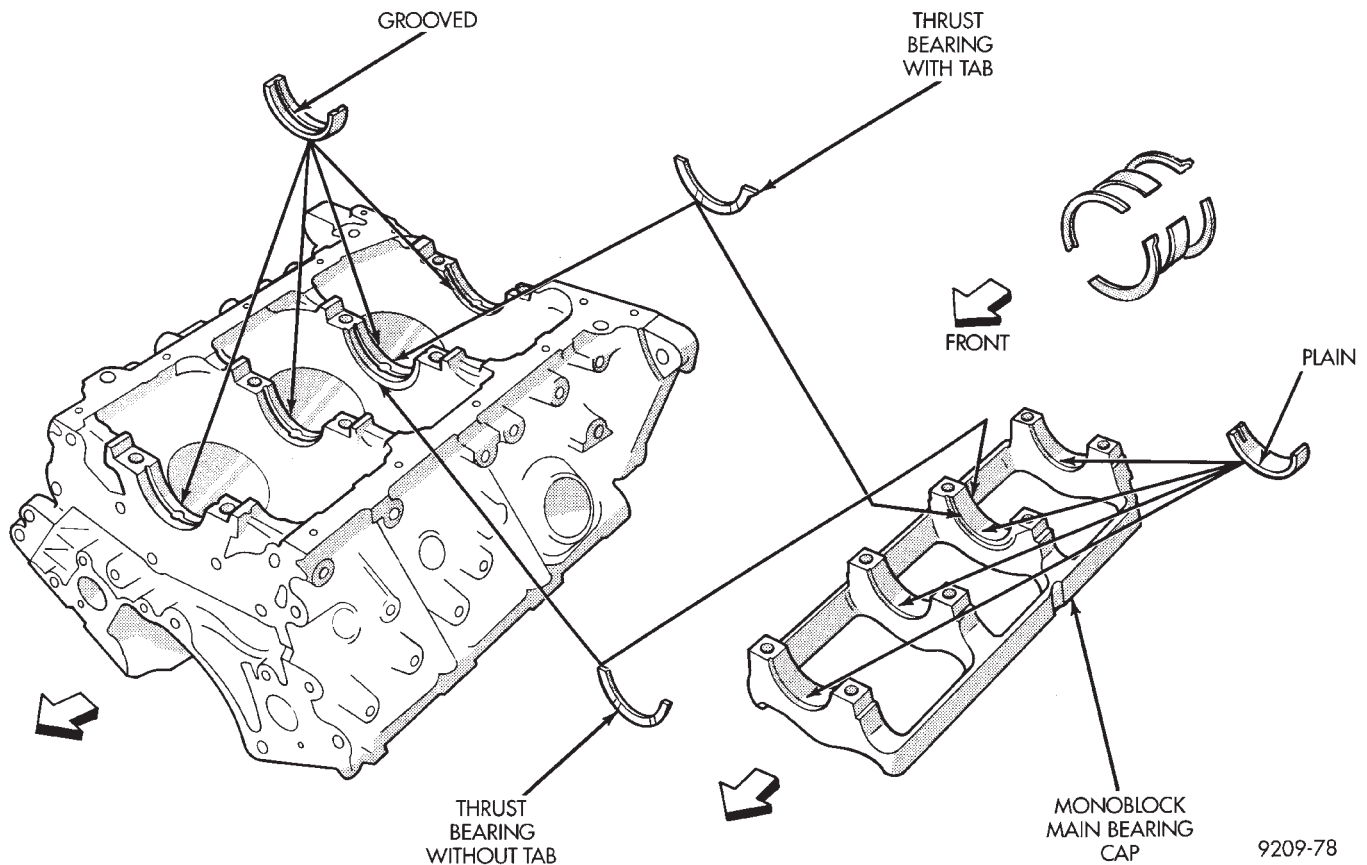

Fig. 9 Install Main Bearings
- (1) Install upper main bearing shells making certain oil holes are in alignment, and bearing tabs seat in block tabs. All upper bearings have oil grooves (Fig. 9).
THRUST BEARINGS. Crankshaft thrust bearings (washers) are installed at journal #3 separately from the radial bearings. Thrust bearings shown in (Fig. 9) are different, one has end positioning tabs,
while the other is plain. One **pair** of each thrust washers are installed into the block and one **pair** into the main bearing cap (Fig. 9).
(2) Apply a thin film of grease to plain side of thrust washers and position them on each side of number three main bearing. Grooved surface towards crankshaft.
(3) Oil the bearings and journals and install crankshaft.
(4) Install lower main bearing shells without oil grooves in monoblock cap.
(5) Install one pair of thrust washers in cap. Refer to Thrust Bearings (Fig. 9).
(7) Oil the bearing cap bolt threads, install and tighten bolts progressively in sequence shown in (Fig. 9) to 80 N•m (60 ft. lbs.) torque.